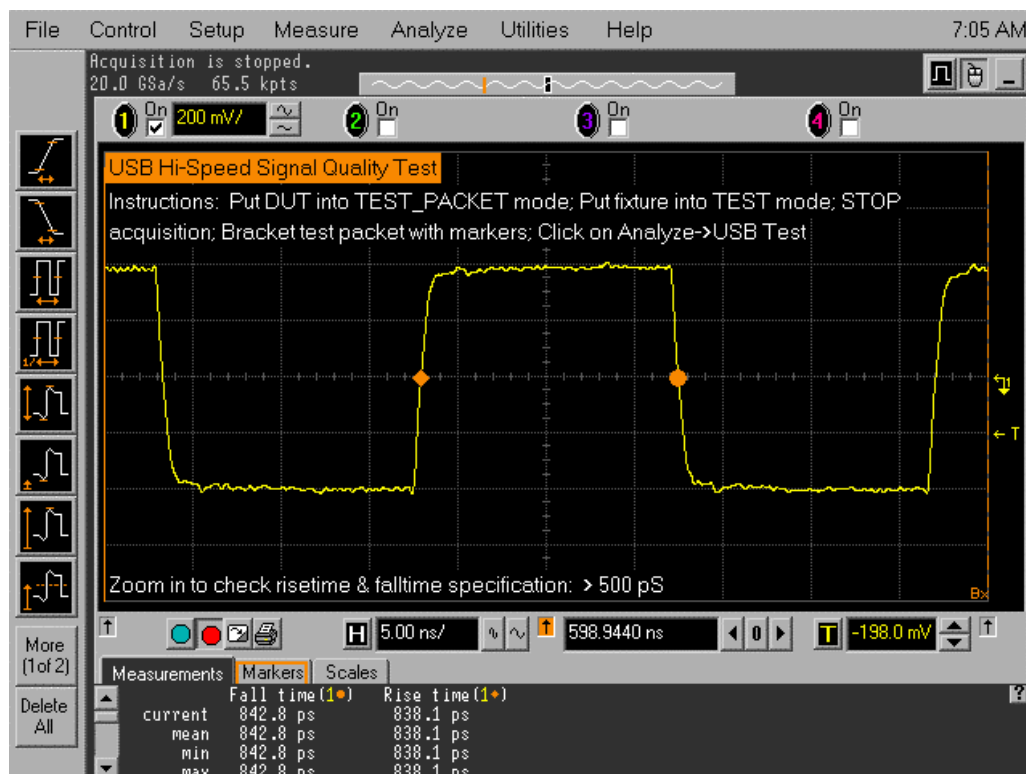

Figure 13: Rise and fall time measurement
18. Using the Horizontal knob on the oscilloscope, zoom in and check that the rise and fall times are > 500us, as shown in Figure 13